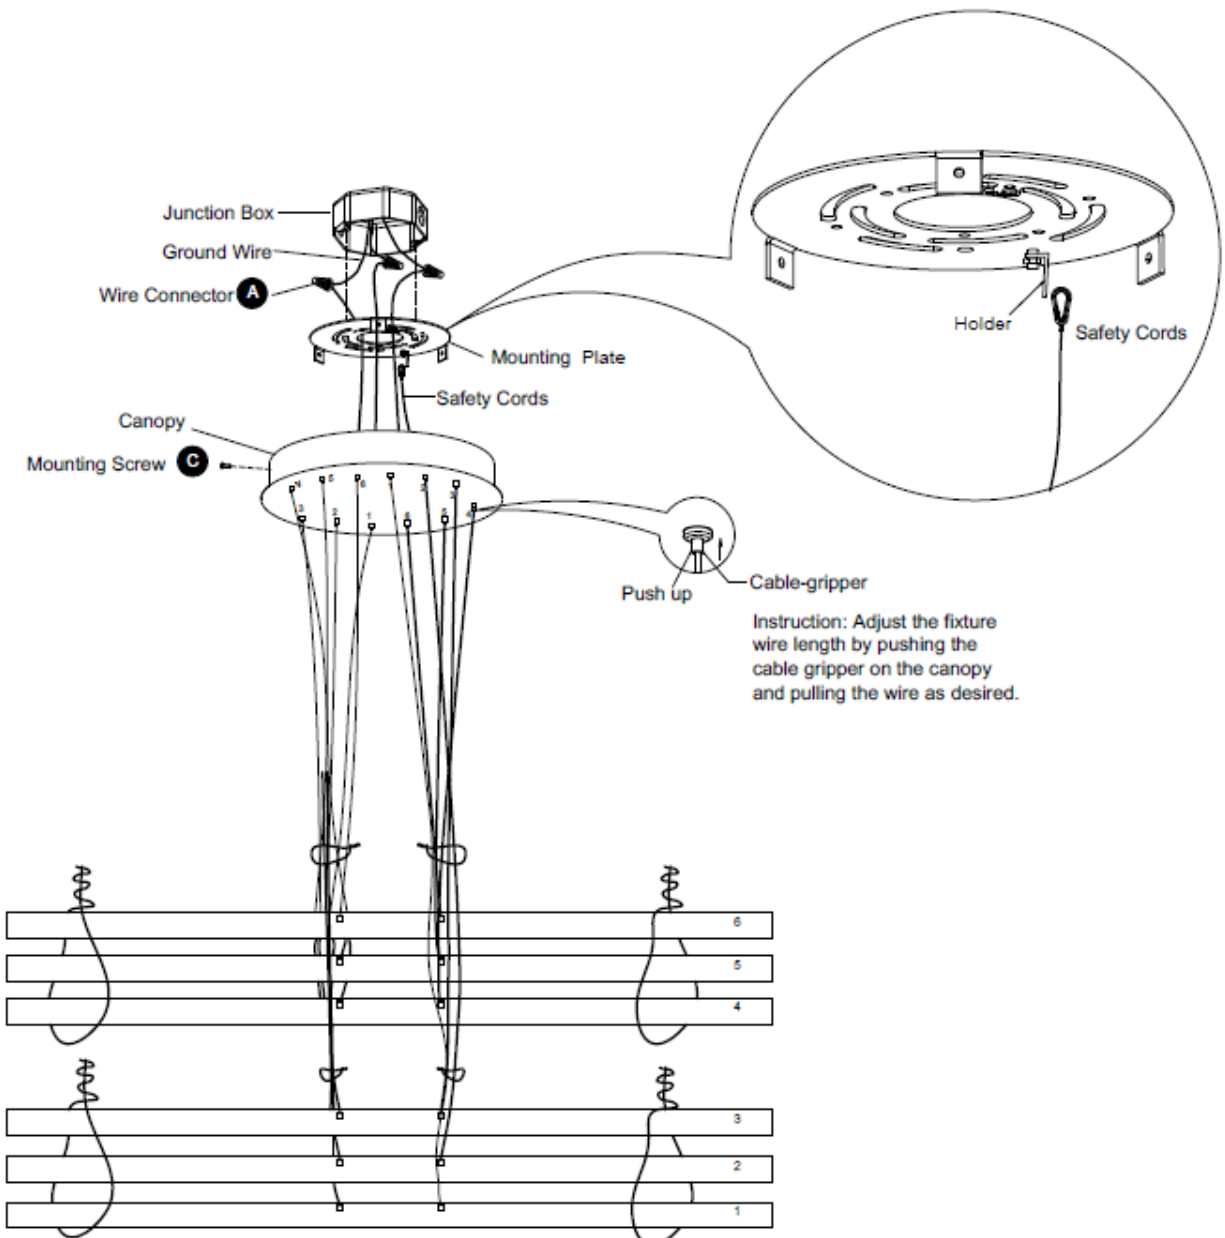

Fig. 4
7. Connect the driver's input wires to junction box wires as shown in (Fig. 4), making sure that all wire connectors (A) are secured. If your outlet box has a green or bare copper ground wire, connect the fixture's ground wire to it. Otherwise, connect the fixture's ground wire directly to the back plate using the green screw provided. After wires are connected, tuck them carefully inside the junction